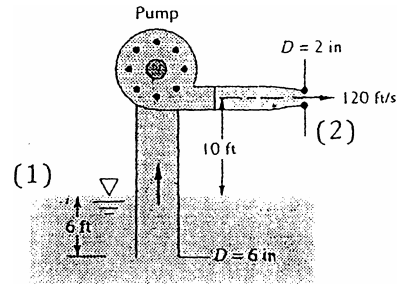

Fig. P3.137
3.137 A fireboat draws seawater ($SG = 1.025$) from a submerged pipe and discharges it through a nozzle, as in Fig. P3.137. The total head loss is 6.5 ft. If the pump efficiency is 75 percent, what horsepower motor is required to drive it?